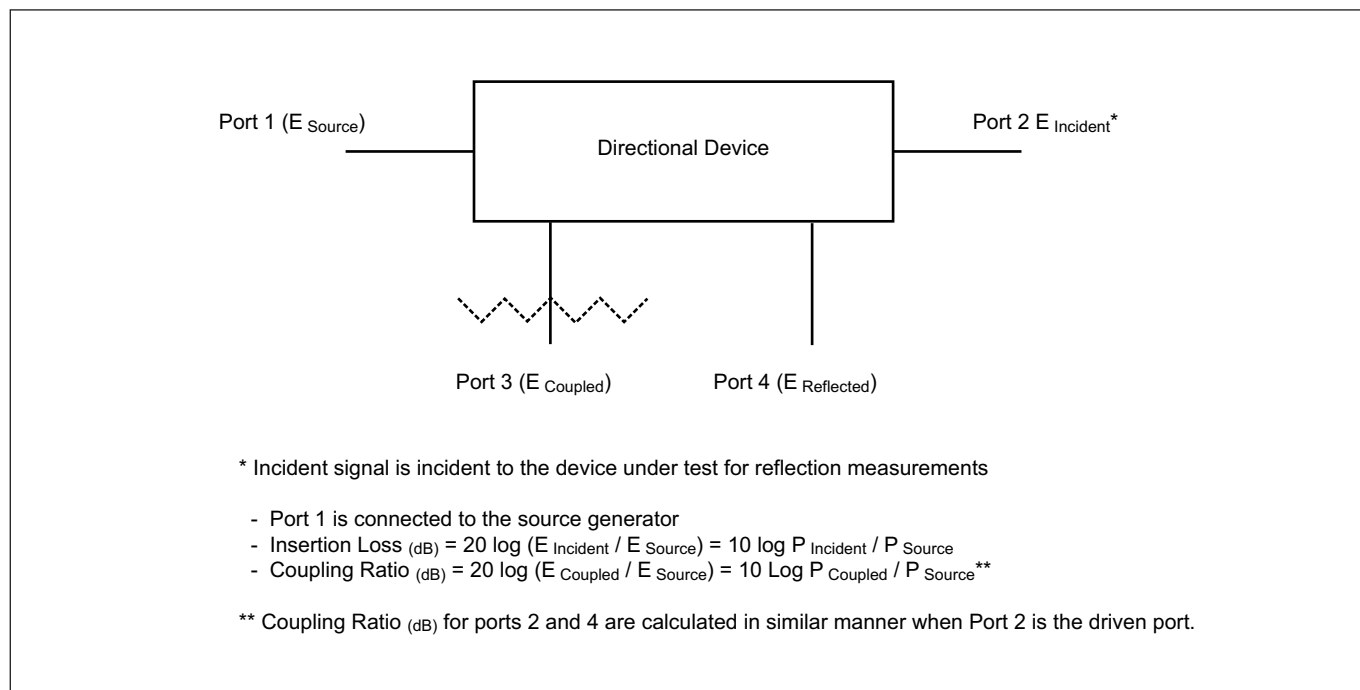

Figure 6. Four port directional device
- Coupling ratio should not be confused with directivity. Coupling ratio (dB) is the nominal level of the signal at the coupled port. In Figure 6 below, Port 1 is shown as the port to which the signal is applied. At Port 3 a reduced level of the signal at Port 1 is present, reduced by the coupling ratio (10, 20, 30 dB coupling ratios are typical coupling ratios for directional couplers). Directivity, on the other hand, is the level of the signal which appears at Port 4 and is undesired. It is due to inherent imbalances in directional devices. Port 4 is the port which provides the reflected measurement (Return Loss/VSWR), when the device is configured with the DUT connected to Port 2.